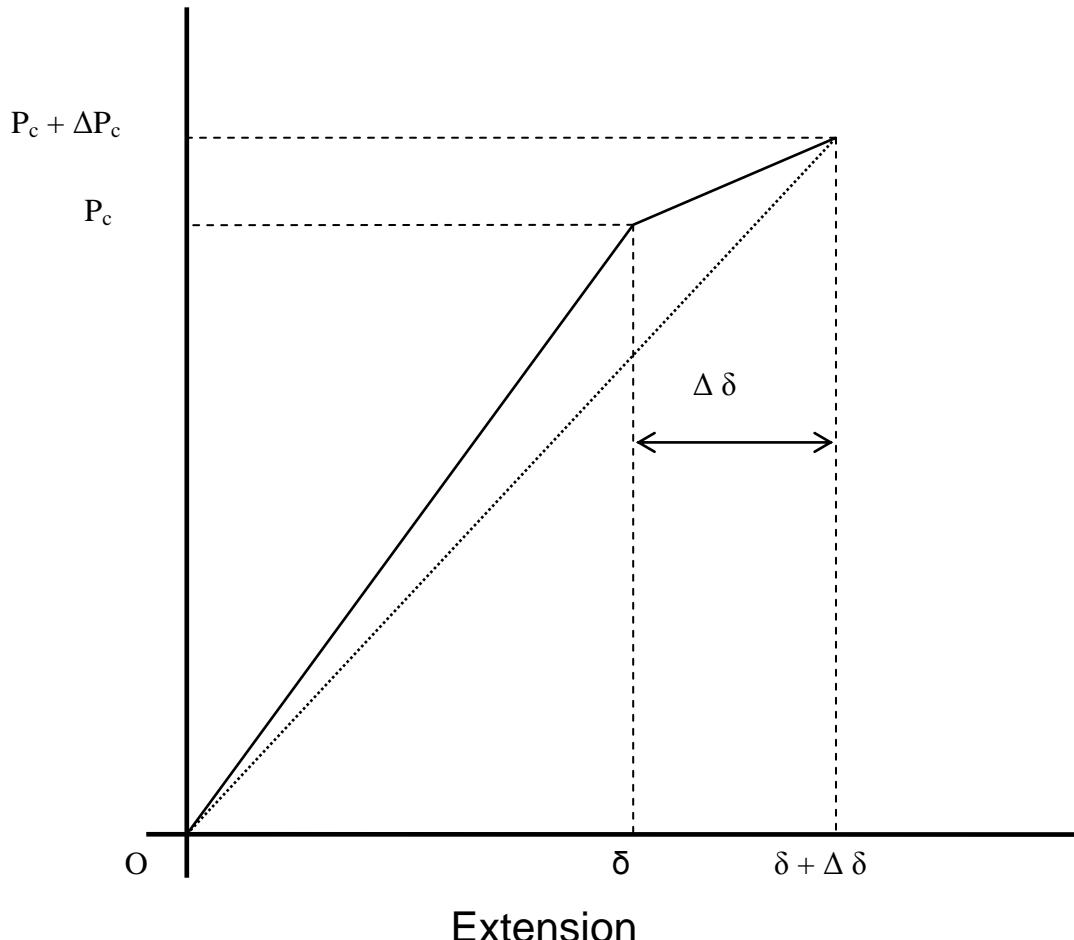

Figure 1
- (b) Based on Irwin-kies Relationship and Figure 1, indicate that strain energy release rate (G) is